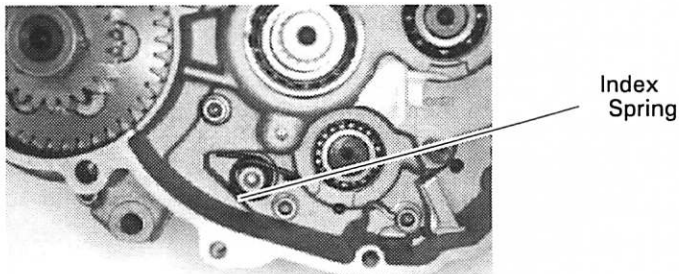

Figure 102
1. Install the index spring over the crankcase boss (Figure 102).